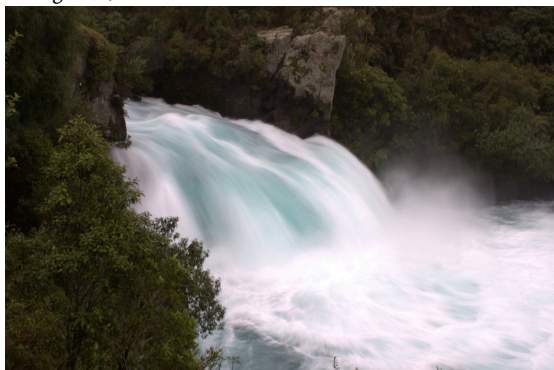

Figure 12.29 The Huka Falls in Taupo, New Zealand, demonstrate flow rate. (credit: RaviGogna, Flickr)
5. The Huka Falls on the Waikato River is one of New Zealand's most visited natural tourist attractions (see Figure 12.29). On average the river has a flow rate of about 300,000 L/s. At the gorge, the river narrows to 20 m wide and averages 20 m deep. (a) What is the average speed of the river in the gorge? (b) What is the average speed of the water in the river downstream of the falls when it widens to 60 m and its depth increases to an average of 40 m?